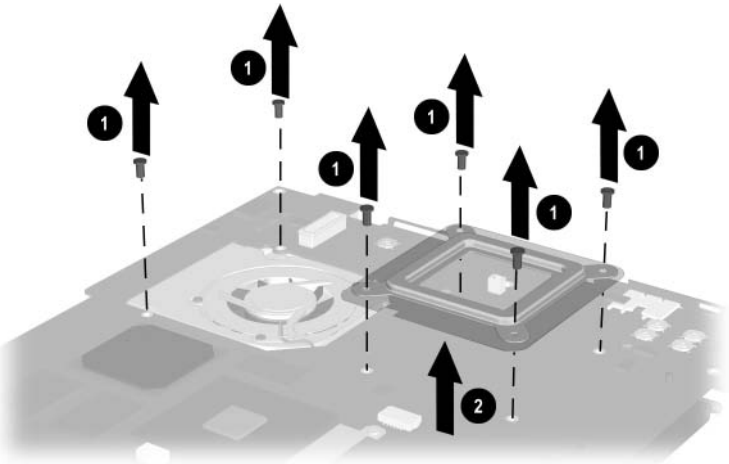

Figure 5-32. Removing the Heat Sink Screws
5. Remove the six PM2.0 × 4.0 screws ❶ that secure the processor mounting bracket and heat sink to the system board (Figure 5-32).
6. Remove the processor mounting bracket ❷.